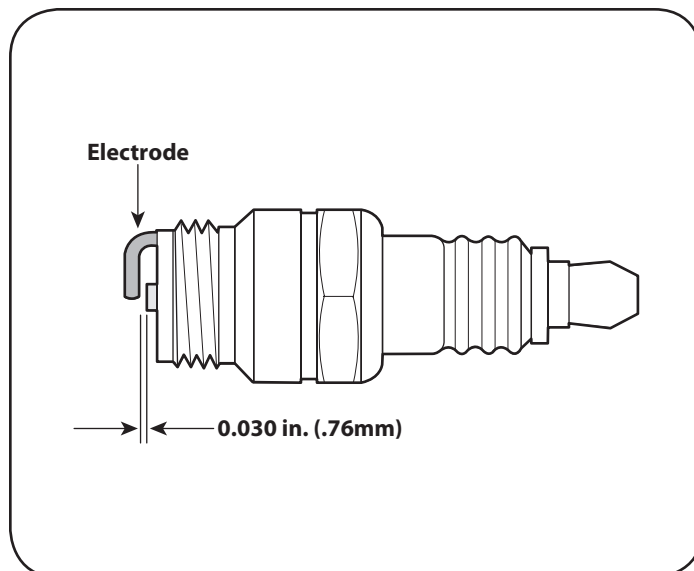

Figure 15
3. Check the gap with a wire gauge. See Figure 15. Spark plug gap should be 0.030 in (0.76 mm). If necessary, reset the gap.